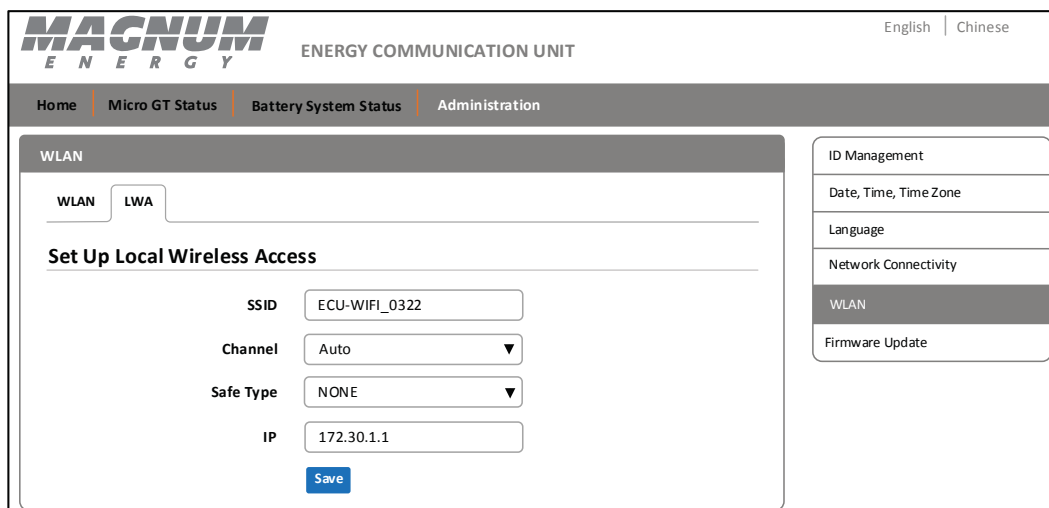

Figure 35, LWA Setup Screen
2. Select the *LWA* tab. The LWA Setup screen appears (Figure 35).